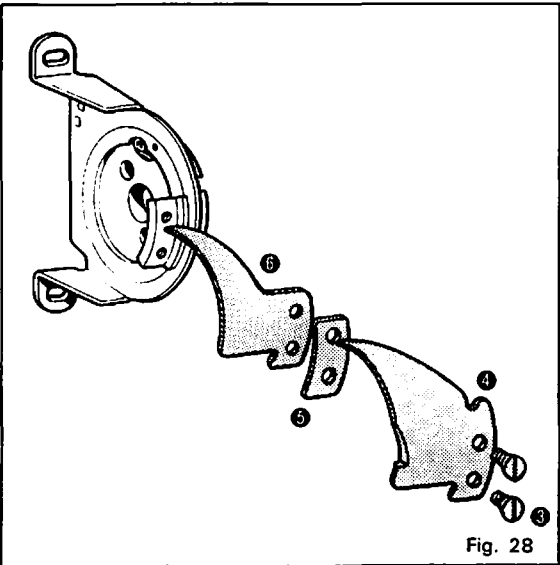

Fig. 28
Change knife ❹ by loosening flat head screws ❸. At that time, change the knife only although spacer ❺ and lower thread finger ❻ are removed. (Fig. 28)